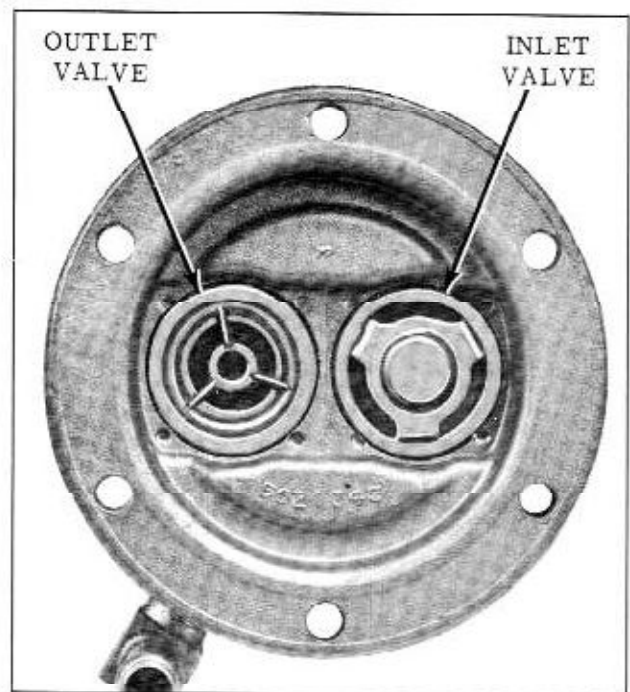

Fig. 8-59 Fuel Pump Valves
4. Place valve gaskets in recesses provided in fuel cover. Place valve assemblies on top of gaskets. Inlet valve must have spring cage facing out of cover, and the outlet valve must have the spring cage facing into cover. Stake valves in place. (Fig. 8-59)